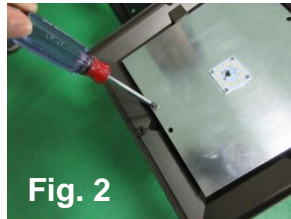

Fig. 2
4. Remove the **screws** holding the **LED plate** in place (Fig. 2).